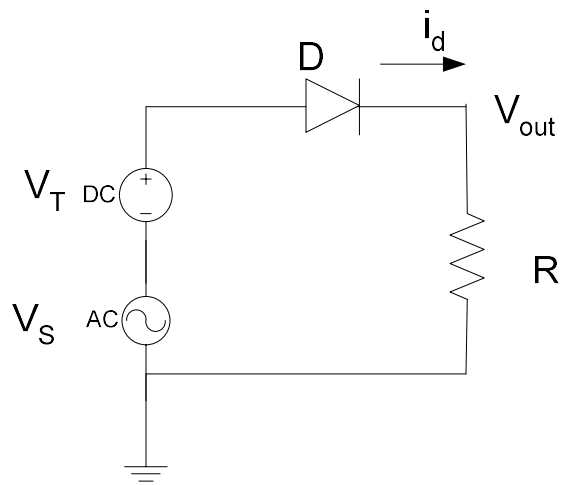

Fig. 3.6
1. **Calculate**  $V_{out}$  assuming  $V_d = 0.7V$ , these are the DC voltage drops across the resistor and the diode respectively in Fig 3.6.
3. In Fig. 3.6 (Small signal (AC) analysis of a diode), what would happen if the polarity of the DC voltage source were swapped?
4. What would happen if a capacitor  $C=1\mu\text{F}$  were added (in parallel with  $R$ ) to the diode circuit shown in Fig. 3.6?